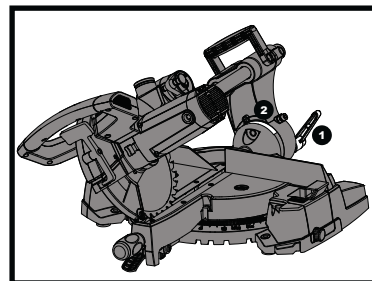

Fig 32
- 1) When a bevel cut is required, loosen the bevel lock handle (1) by turning it clockwise.
- 2) Tilt the cutting head to the desired angle, as shown on the bevel scale (2)
- 3) The blade can be positioned at any angle, from a 90° straight cut (0° on the scale) to a 45° left bevel. Tighten the bevel lock handle (1) to lock the cutting head in position. Positive stops are provided at 0°, 33.9° and 45°. (See fig. 32)